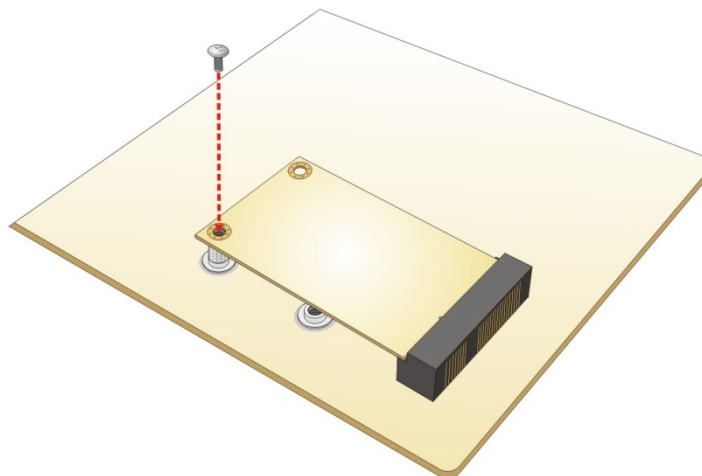

Figure 3-9: Securing the Full-size PCIe Mini Card
Step 6: Secure the full-size PCIe Mini card with the retention screw previously removed (Figure 3-9).